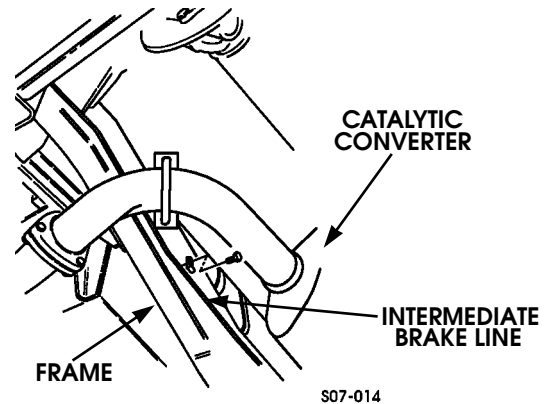

Figure 7-17: Intermediate Brake Line
3. Disconnect intermediate brake line from union brake line and remove brake line (Figure 7-17).
3. Install intermediate brake line on frame with five clamps and capscrews (Figure 7-17).